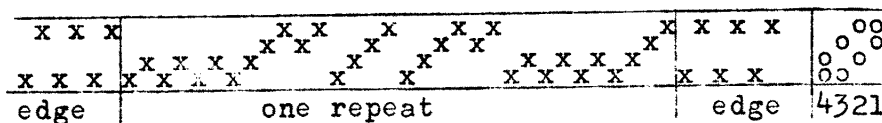

Fig.4
2. HUCKABACK LACE ON OVERSHOT DRAFTS. Any Overshot draft written entirely on opposites can be used to weave huck-lace. But it will have rather poor edges, and therefore tabby selvages on 1 and 4 should be substituted (fig.4).